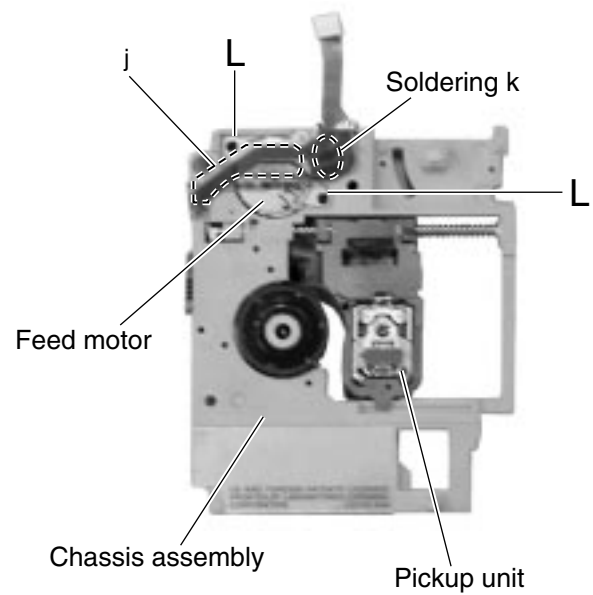

Fig.14
**■ Removing the feed motor (See Fig.14)**